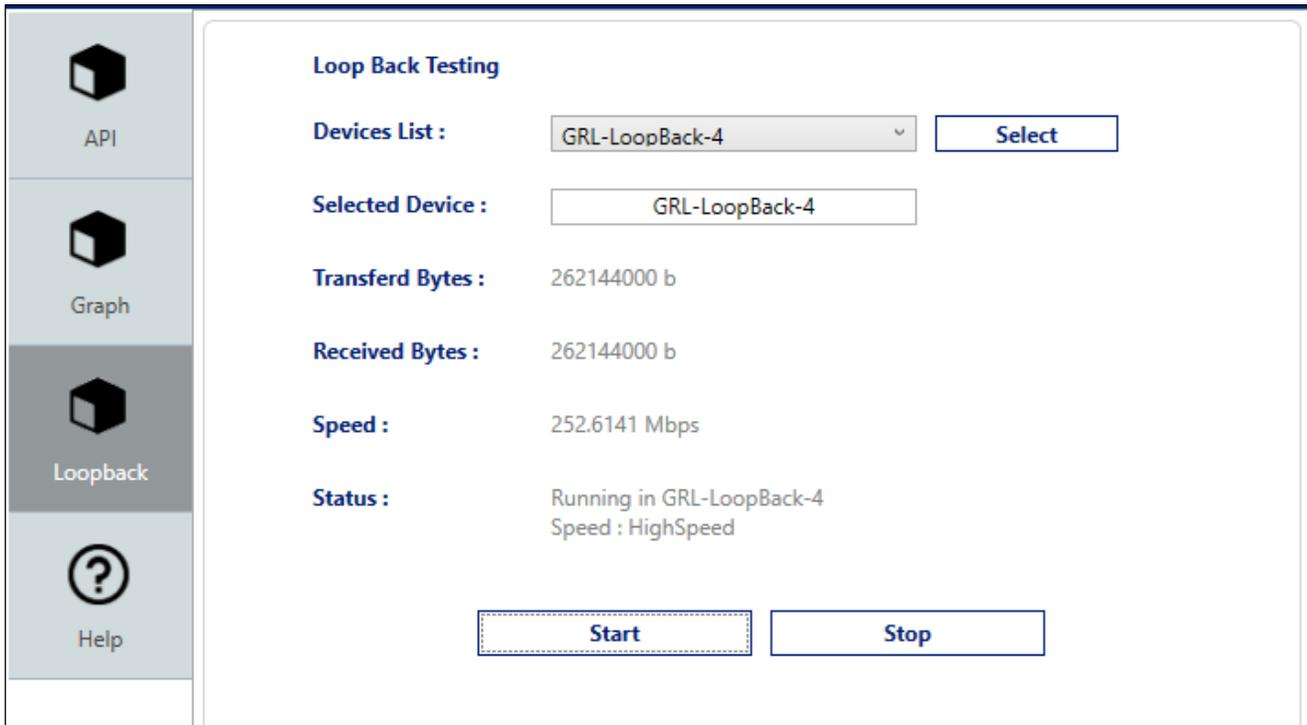

Figure 58. Verify Port Loopback Test Status
3. On the Loop Back Testing screen, check whether or not the port loopback test is detected and then verify the status of the port loopback test, as shown in Figure 58 example below.